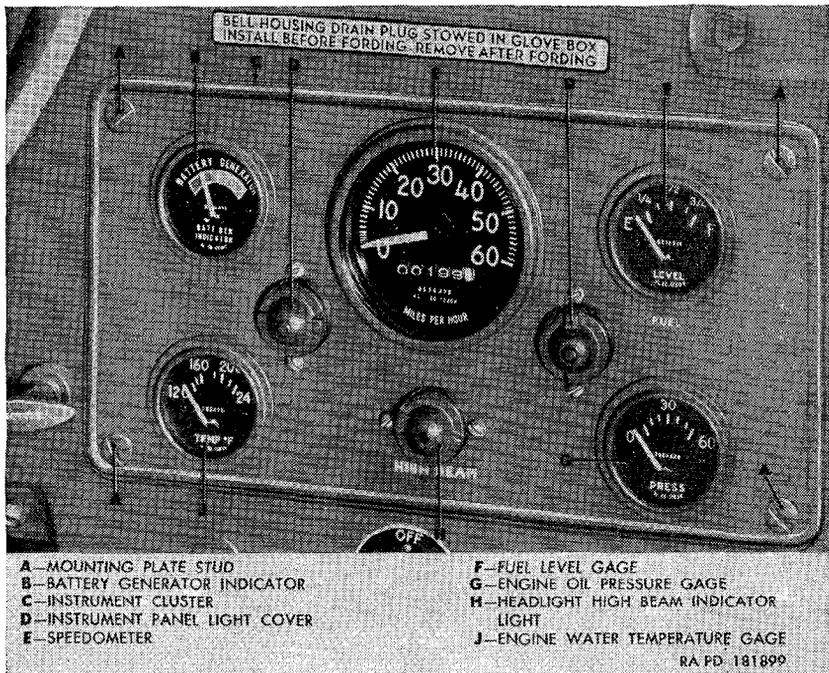
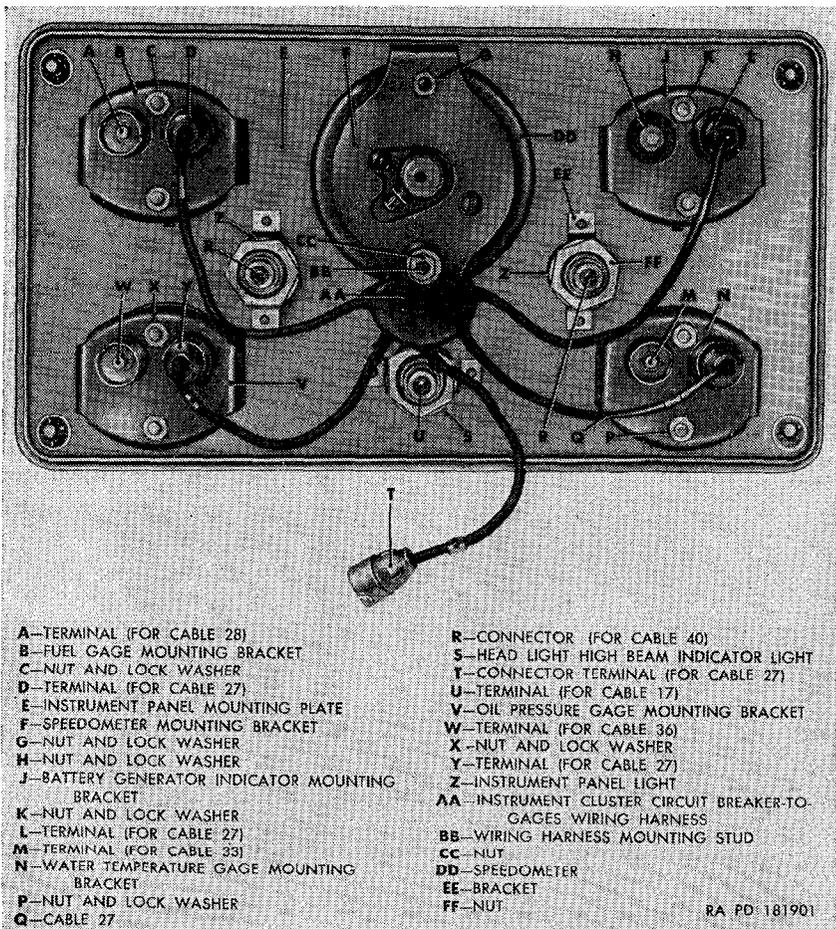

Figure 113. Instrument cluster (M170)—front view.
Figure 115. Instrument cluster (M170)—rear view.
Note. The key letters noted in parentheses refer to figure 115, except where otherwise indicated.
Disconnect the ground cable 7 (par. 162b(8)(a) and (b)). Turn the four instrument mounting plate studs (A, fig. 113) one-half turn counterclockwise and pull instrument cluster free from instrument panel. Disconnect cable 27 from terminal L. Remove the two nuts and lockwashers (K) securing the battery generator indicator (B, fig. 113) and the battery generator indicator mounting bracket (J), and remove indicator and bracket from instrument panel mounting plate (E).
Position the battery generator indicator (B, fig. 113) in the instrument panel mounting plate (E) and rotate indicator until it engages the locating slot in plate. Install the battery generator indicator mounting bracket (J) over the indicator and secure the indicator and bracket to the instrument panel mounting plate (E) with two No. 8 lockwashers and nuts (K). Connect cable 27 to terminal L. Position the instrument cluster on the instrument panel and turn the four instrument cluster mounting plate studs (A, fig. 113) one-half turn clockwise. Connect ground cable 7 (par. 162b(9)(b) and (c)).
c. Removal (M170). Turn the four instrument cluster mounting plate studs (A, fig. 113) one-half turn counterclockwise and pull instrument cluster free from instrument panel. Unscrew the instrument panel light cover (D, fig. 113) from the instrument panel light (Z, fig. 115). Disconnect cable 40 from connector (R, fig. 115). Unscrew the nut (FF, fig. 115) and remove the lockwasher securing the instrument panel light (Z, fig. 115) to the bracket (EE, fig. 115) and push light out of bracket from the rear of the panel and through the opening in the panel.
d. Installation (M170). Insert the instrument panel light into the bracket (EE, fig. 115) through the opening in the instrument cluster panel. Place a lockwasher over the threaded end of the light and install the nut (FF, fig. 115) securing the light to the bracket (EE, fig. 115). Connect cable 40 to the connector (R, fig. 115). Screw the cover (D, fig. 113) onto the instrument panel light (Z, fig. 115). Position the instrument cluster on the instrument panel and turn the four instrument cluster mounting plate studs (A, fig. 113) one-half turn clockwise.
f. Lamp Replacement (M170). Screw the instrument panel light cover (D, fig. 113) counterclockwise and remove. Press in and turn lamp counterclockwise to disengage. Install new lamp by pressing lamp into socket and turning clockwise. Install instrument panel light cover.
c. Removal (M170). Follow the same procedure as outlined in paragraph 179b(1) for instrument panel lights except that cable 17 is disconnected from connector (T, fig. 115).
d. Installation (M170). Follow the same procedure as outlined in paragraph 179b(2) for instrument panel lights except that cable 17 is connected to the connector (T, fig. 115).
f. Lamp Replacement (M170). Screw the instrument panel light cover (D, fig. 113) counterclockwise and remove. Press in and turn lamp counterclockwise to disengage. Install new lamp by pressing lamp into socket and turning clockwise. Install headlight high beam indicator light cover.